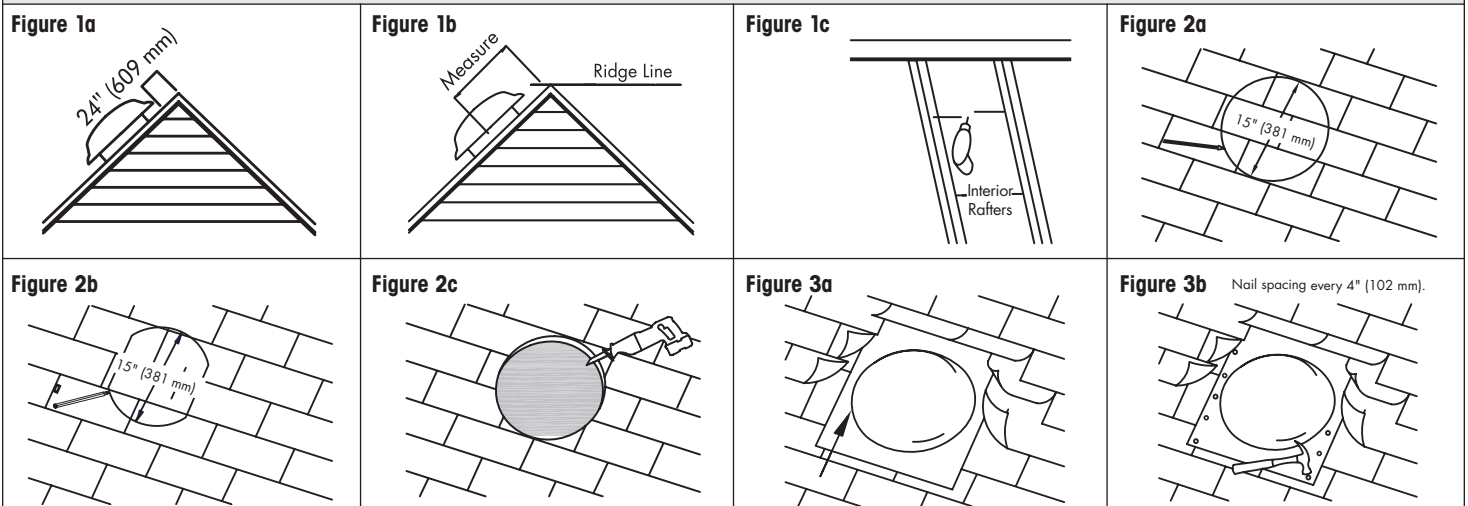

Figure 4a
- 8a. Plug-In:** Plug the fan into a 110v grounded receptacle as shown in figure 4a. **WARNING:** Fan may start immediately if temperature and/or humidity (select models) conditions are met. Refer to 'Ventilator Settings' in section 9.